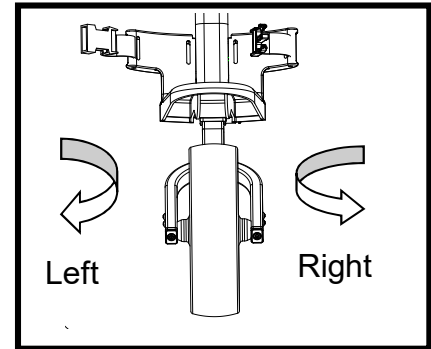

Fig .1
Assemble the lower bracket by 2pcs M6*38mm screws and nuts as Fig.1.
1.If during use, you find the cart veers to the right or left,please see the instructions below to correct this problem.(Fig.1)